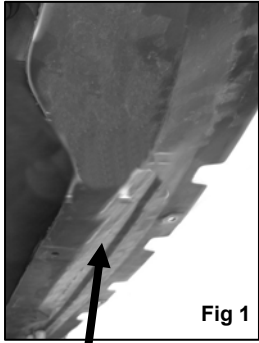

Fig 1
2. **NOTE:** The factory lower air dam and the bottom plastic shroud (Figure 1) must be removed to install this Sport Bar. From underside of vehicle, use an 8mm socket/wrench to remove 7 screws and a flat screw driver to remove the 3 clips from across the bottom plastic shroud. Once you have removed the plastic shroud, use a 10mm wrench to remove the 10 bolts and 8mm socket to remove 2 crews across the lower air dam. **NOTE:** You will not be reinstalling the front air dam.